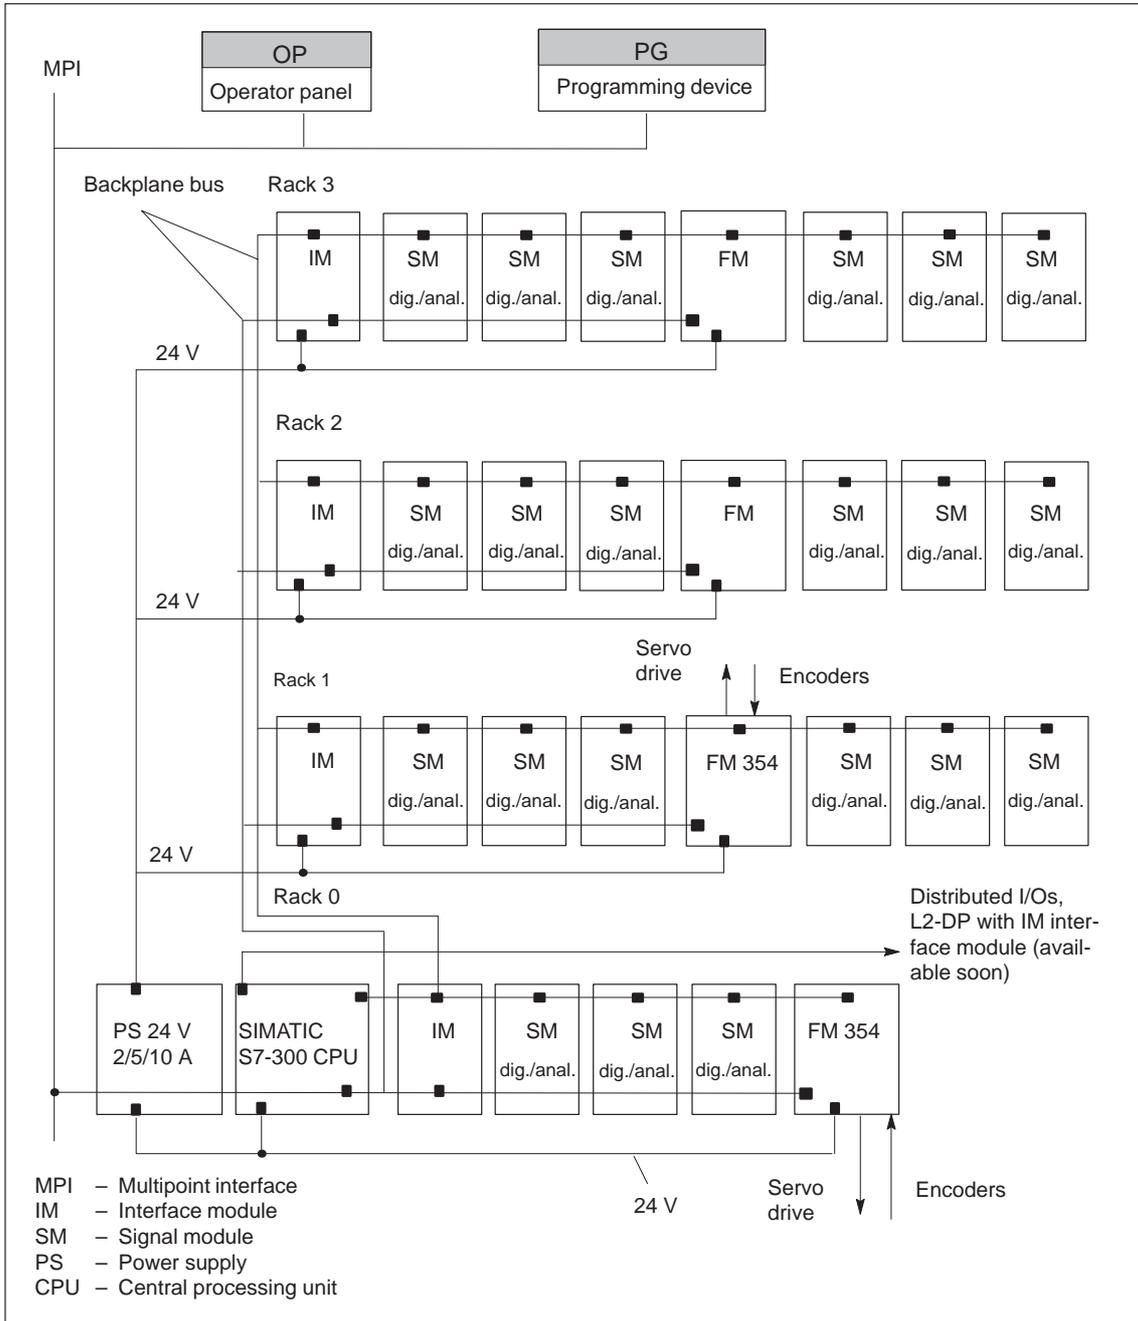

Fig. 1-1 Multi-rack configuration of a SIMATIC S7-300 with FM 354 (example)
A SIMATIC S7-300 CPU may run up to four racks with as many as eight bus stations each (see Figure 1-1).
Interface module (IM)	... connects the individual cells of an S7-300 with one another (applies to multi-tier configuration; see Figure 1-1).